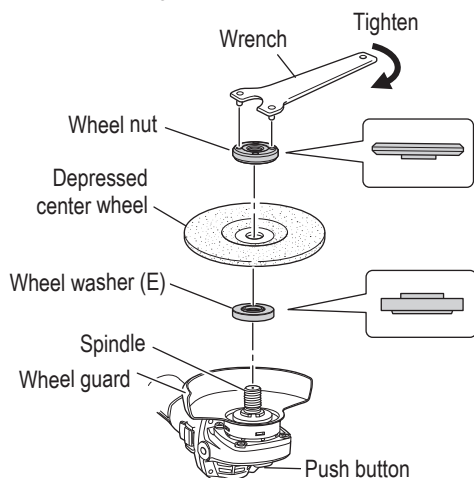

Fig. 19
- (1) Turn the disc grinder upsidedown so that the spindle is facing upward.
- (2) Align the oval-shaped indentation of the wheel washer (E) with the notched part of the spindle, then attach them.
- (3) Fit the protuberance of the depressed center wheel onto the wheel washer (E).
- (4) Screw the wheel nut onto the spindle.
- (5) While pushing the push button with one hand, lock the spindle by turning the depressed center wheel slowly with the other hand. Tighten the wheel nut by using the supplied wrench as shown in Fig. 19.